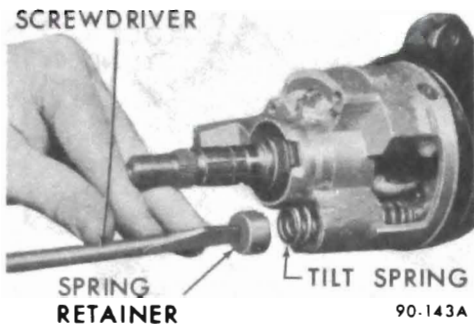

Figure 90-137 - Removing
15. Install tilt release lever and place column in full "Up" position. Remove tilt spring retainer using screwdriver blade that just fits into slot opening. Insert screwdriver in slot, press in approximately 3/16 inch, turn approximately 1/8 turn counterclockwise until ears align with grooves in housing and remove spring and guide. See Figure 90-137.
clockwise to engage. See Figure 90-137.